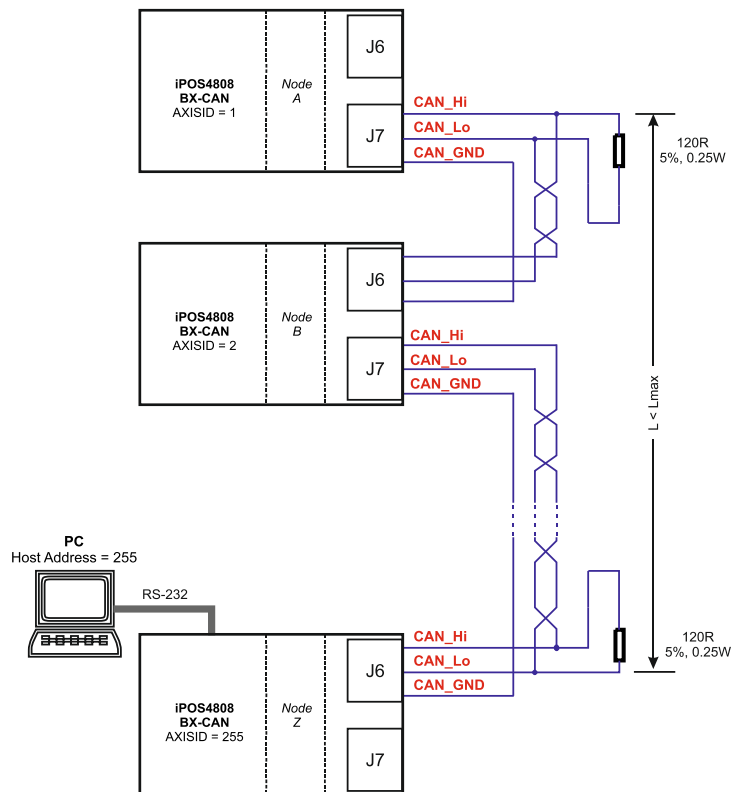

Figure 3.29. Multiple-Axis CAN network
1. The CAN network requires a 120-Ohm terminator. This is not included on the board. **Figure 3.29** shows how to connect it on your network